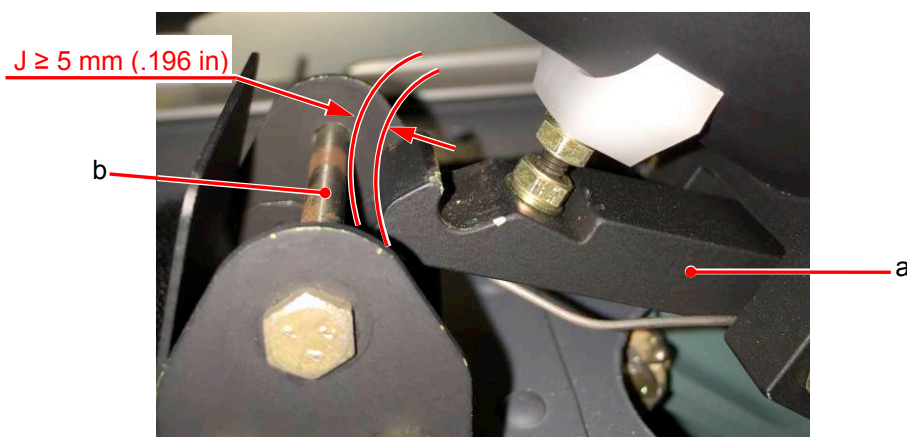
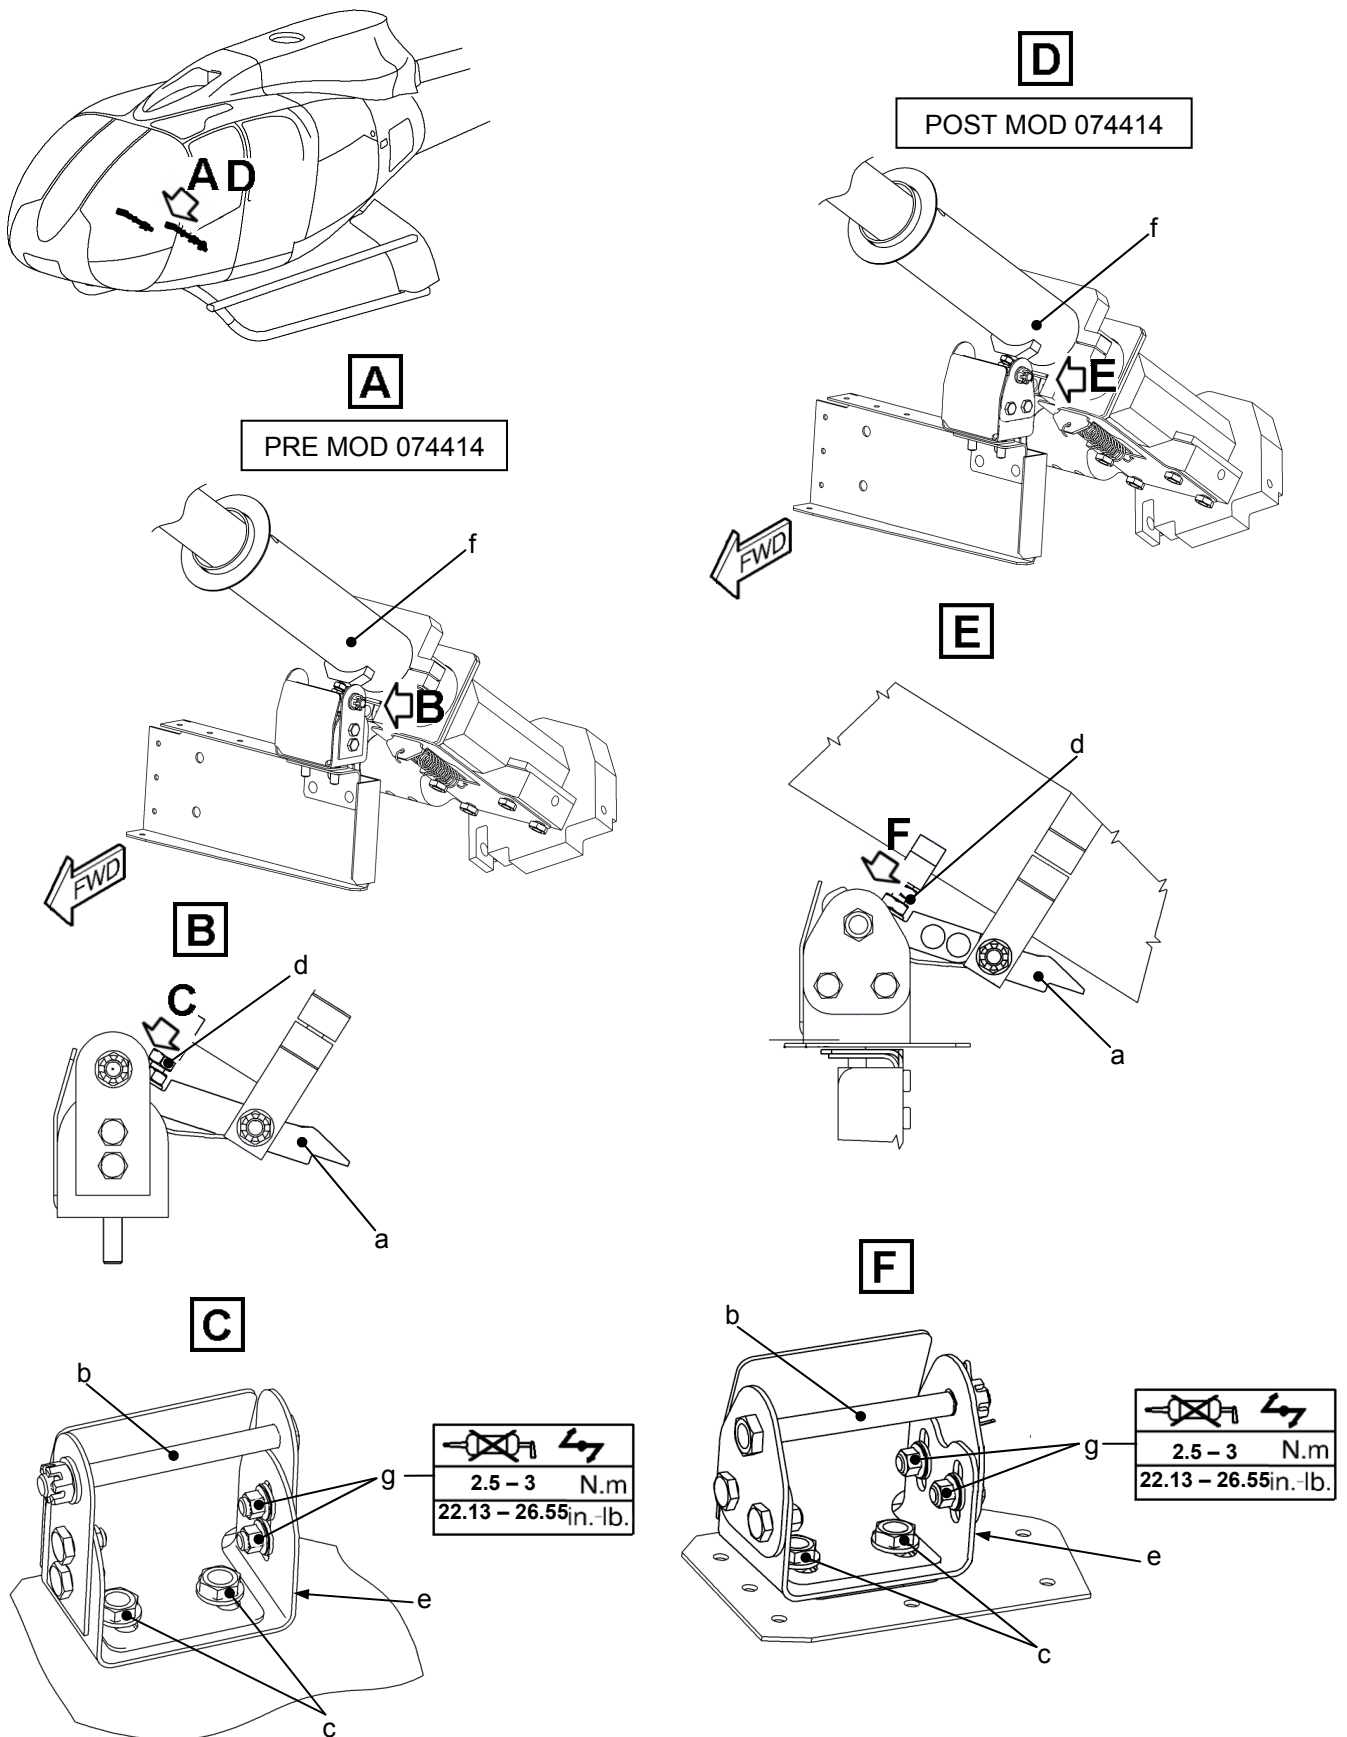

Figure 1
Figure 4: Low pitch locking
##### 3.B.2. Procedure (Figure 1)
- Using a shim (zz) (or ruler (yy)) (for example), measure and record the minimum clearance value (J) between the edge of pilot's collective pitch stick tab hook (a) and the edge of locking pin (b), (see Figure 1 below) when moving the pilot's collective pitch stick in the low pitch area.
### 3.B.3. Adjusting the clearance between tab (a) and locking pin (b) (Figures 1 and 4)
- Loosen bolts (c) (Detail C or F, Figure 4).
- Adjust the longitudinal position of locking pin (b) using the horizontal slots of support (e) of locking pin (b) in order to ensure a minimal clearance (J) of 5 mm (.196 in). (Figure 1, page 6/11).
- Tighten bolts (c) (Detail C or F, Figure 4) as per MTC Work Card 20.02.05.404.
### 3.B.4. Tests (Figures 1, 2 and 4)
- Slide tube (f) (Detail A or D, Figure 4) forwards and check that tab (a) (Detail B or E) engages correctly on locking pin (b) (Detail C or F).
- Using a spring balance (xx) positioned in the middle of the twist grip, push the pilot's collective stick downwards (see Figure 2 below) and check that tab (a) (Figure 4, Detail B or E) releases correctly from locking pin (b) (Detail C or F) at a load of more than 110 N (24.72 lbf).
- After adjusting, ensure that the minimum clearance value (J) between the edge of tab (a) of the pilot's collective pitch stick and the edge of locking pin (b) (Figure 1, page 6/11) when moving the pilot's collective pitch stick in the low pitch area is still at least 5 mm (.196 in).
- Adjust the longitudinal position of locking pin (b) (Detail C or F, Figure 4) using the horizontal slots of support (e) of locking pin (b) in order to ensure a minimal clearance (J) of 5 mm (.196 in.) (Figure 1, page 6/11) when moving the pilot's collective pitch stick in the low pitch area.
- Using a spring balance (xx), push the pilot's collective pitch stick downwards (Figure 2, page 7/11) and check that tab (a) (Detail B or E, Figure 4) detaches correctly from locking pin (b) (Detail C or F) at a load of more than 110 N (24.72 lbf).
- . ensure that the minimum clearance value (J) between the edge of tab (a) of the pilot's collective pitch stick and the edge of locking pin (b) (Figure 1, page 6/11) when moving the pilot's collective pitch stick in the low pitch area is still at least 5 mm (.196 in).